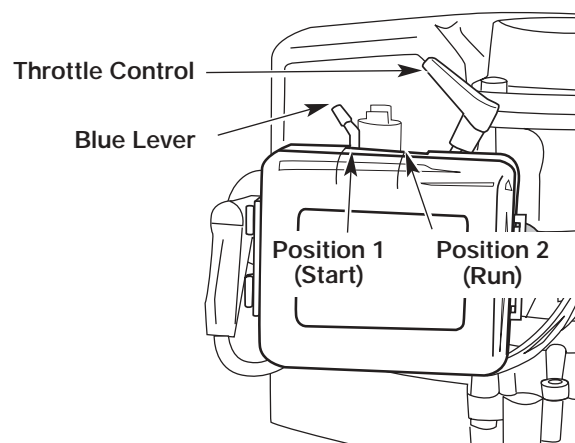

Fig. 3
3. Place the blue choke lever in Position 1- Start (Fig. 3).